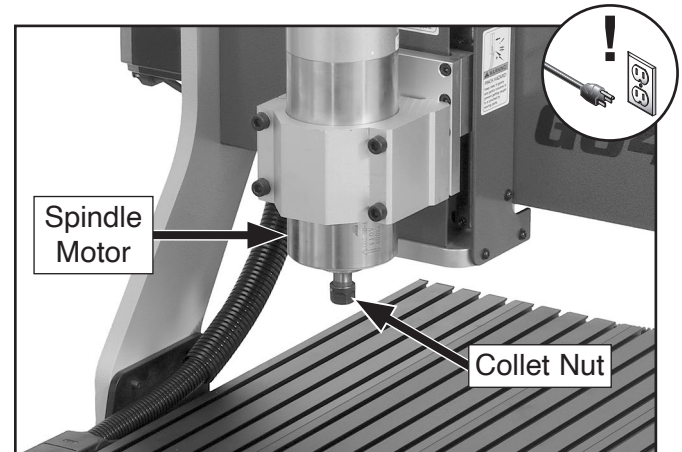

Figure 16. Location of spindle motor tooling components.
2. Loosen and remove collet nut on spindle motor (see **Figure 16**), then remove ER11 collet from spindle, if installed.